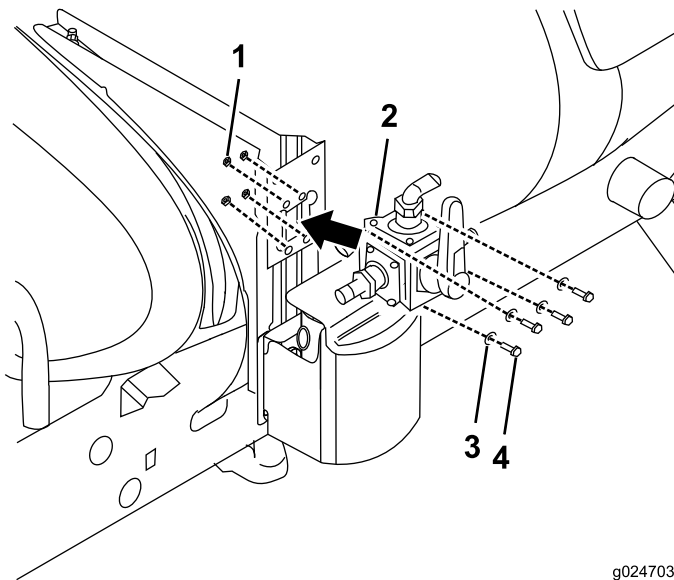

Figure 16
3. Install the four-way valve to the valve mount assembly with 4 locknuts (6 mm) (Figure 16).